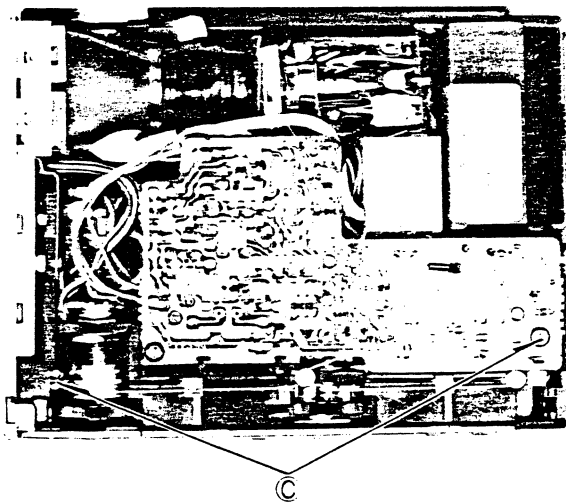

Fig. 3
1. Remove 2 screws **(C)** as shown in Fig. 3.